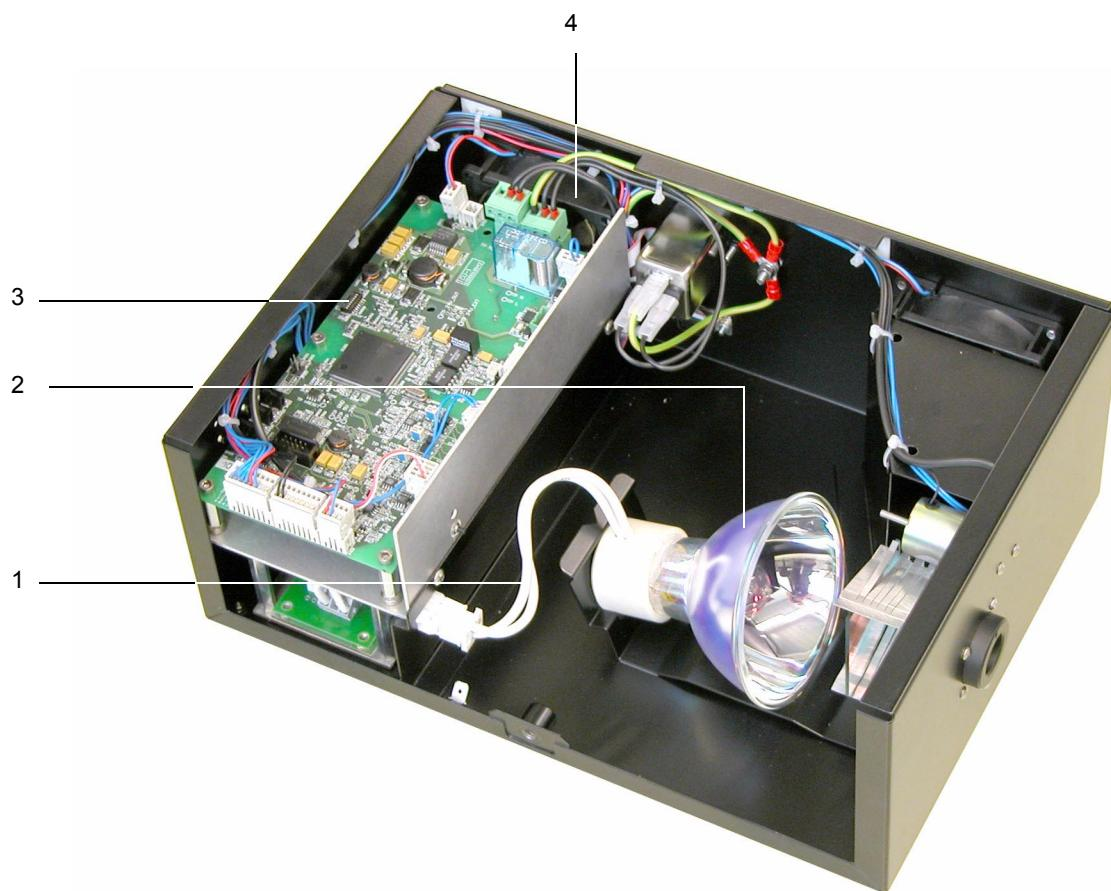

Fig. 13: Illumination Module
2. **Fig. 13:** Select CAN basic address with the DIP switch (3). The node ID is set with the corresponding DIP switches. The values for the individual switches are: **01 h, 02 h, 04 h, 08 h, 10 h, 20 h, 40 h, 80 h** from the front side to the rear side.
- pre operational mode after being switched on, i.e. only fan no. 1 is running (see **Fig. 13, (4)**)